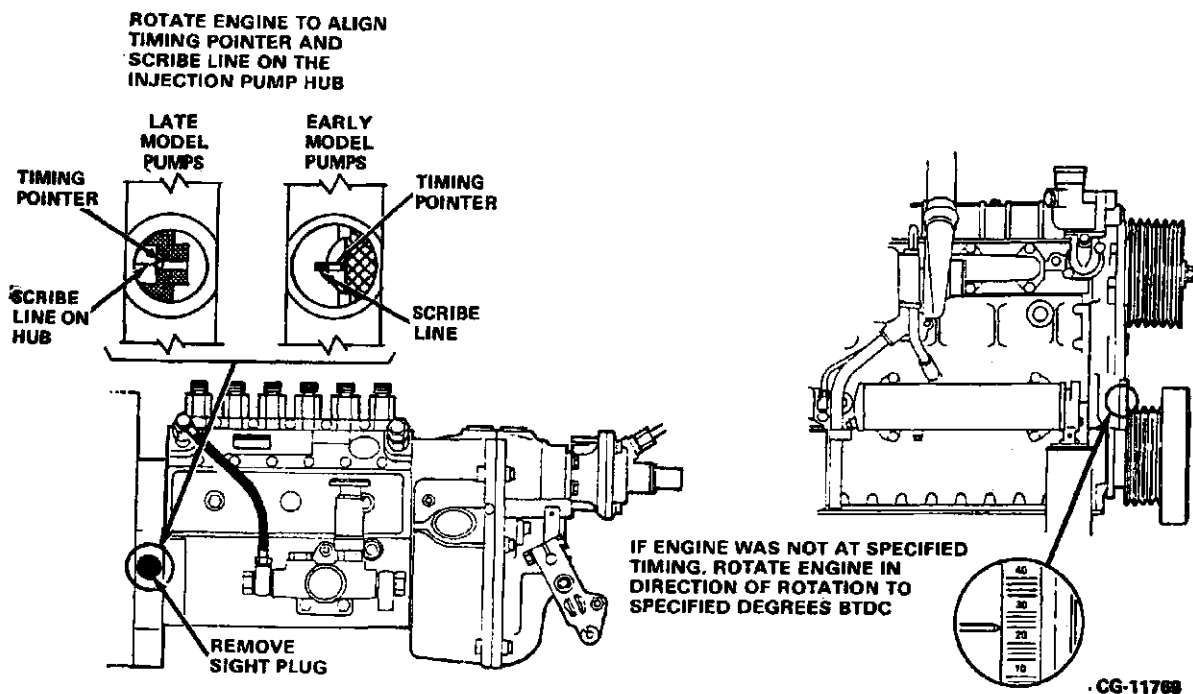

Figure 11.8. Injection Pump to Engine Timing (Prior to Pump Removal)
5. Visually inspect the hub scribe line and timing pointer for alignment. If the scribe line and timing pointer are aligned, the #1 piston is on the compression stroke. Refer to **Figure 11.8**.
3. Observe the engine front cover timing pointer and damper pulley degree alignment. To ensure an accurate reading, view the pointer straight on. Refer to **Figure 11.8**.